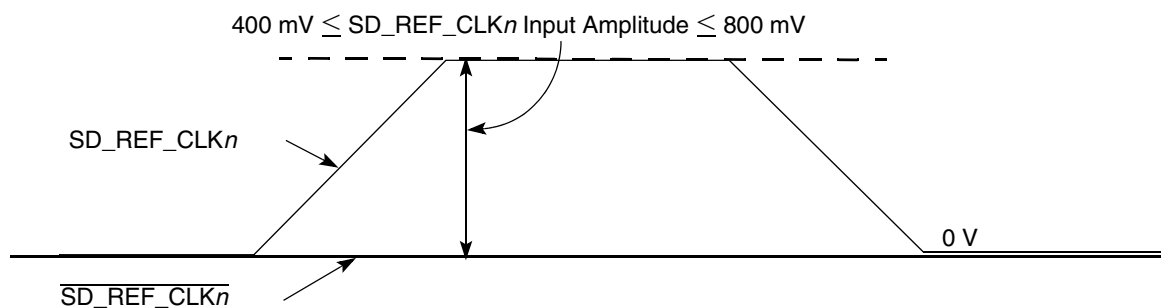

Figure 39. Single-ended reference clock input DC requirements
- The SD_REF_CLKn input average voltage must be between 200 and 400 mV. Figure 39 shows the SerDes reference clock input requirement for single-ended signaling mode.